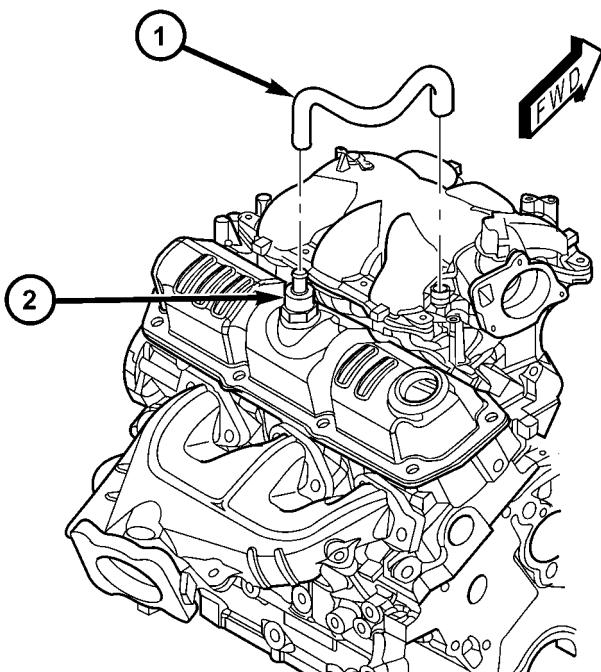

Fig. 115 PCV & HOSE
(6) Disconnect the automatic idle speed (AIS) motor and throttle position sensor (TPS) wiring connectors from throttle body.
(7) Disconnect the manifold absolute pressure (MAP) sensor electrical connector.
(8) Disconnect the vapor purge vacuum hose from throttle body.
(9) Disconnect the PCV hose (Fig. 115).